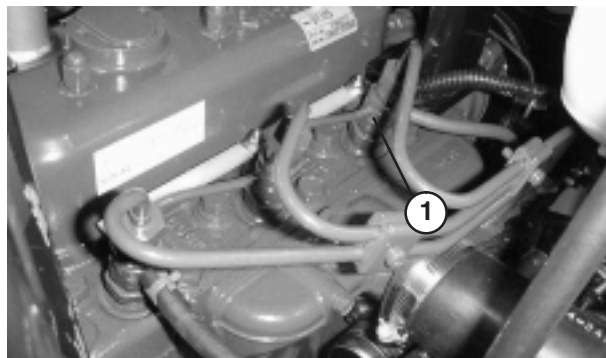

Figure 40
1. Loosen the pipe connection to the No. 1 injector nozzle and holder assembly at injection pump (Fig. 40).